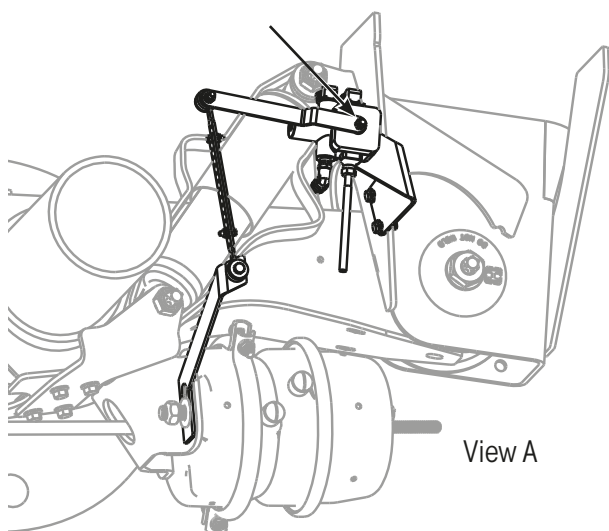

Figure 11: Brake Chamber Bracket Mount
- Fixed to the brake chamber bracket (Refer to Figure 11)